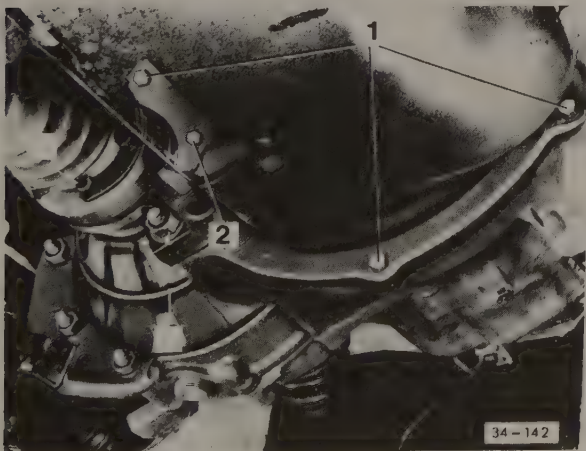

Fig. 6-17. Clutch cover plate bolts at **1** and small cover plate bolts at **2**.
13. Remove the bolts from the clutch cover plate as indicated in Fig. 6-17 (the cover plate will remain on the engine when the transaxle is removed). Remove the bolts from the small cover plate (located behind the left drive flange).